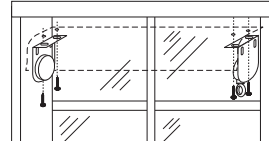

Fig 5
- b. Install the clutch bracket and idle end bracket through the holes in the Pelmet (Fig 5). Note: You will not be using your pelmet caps*.